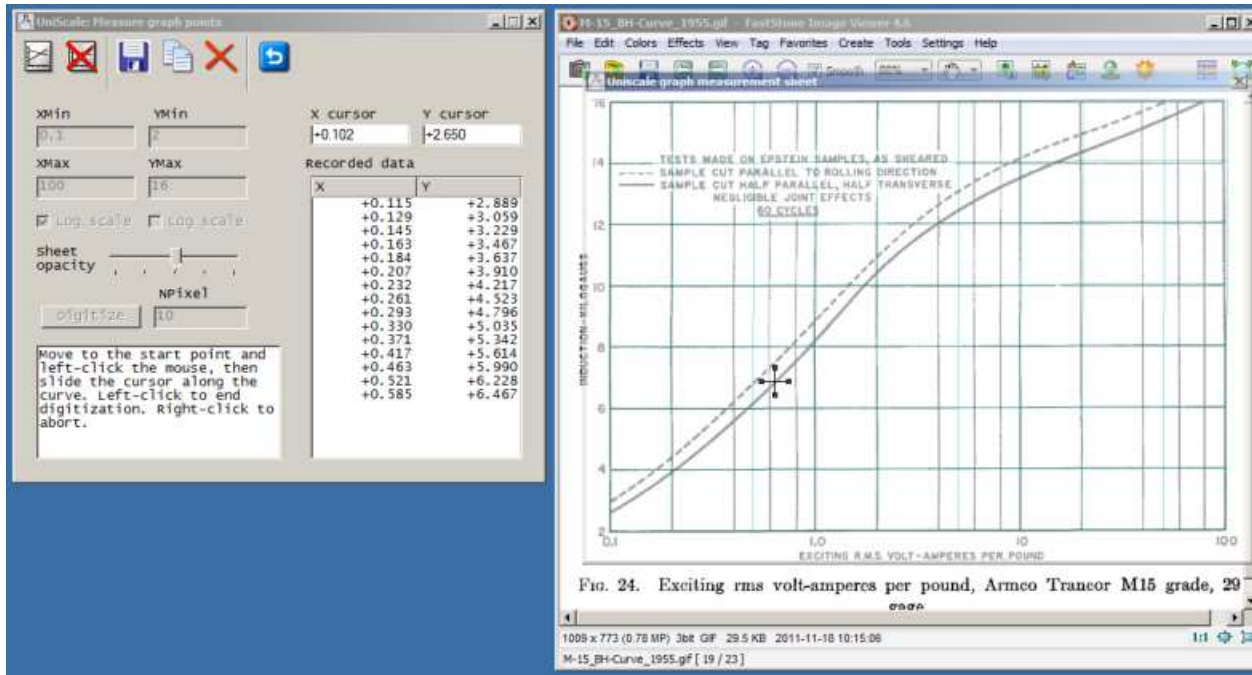

Figure 6: Calibration setup for a graph with a logarithmic axis, digitization in progress.
3. Use the check boxes if the graph contains one or more logarithmic axes (Fig. 6). In this case, values in the **XMin-XMax** and/or **YMin-YMax** boxes must be greater than 0.0.
7. To digitize curves like the one in Fig. 6, push the **Digitize** button. Then move the cursor to the start point of the curve on the locked measurement sheet. Click the left button and slide the cursor along the curve. Values appear in the **Recorded data** list box. When you reach the end of the curve, be sure to left or right-click the mouse to terminate the digitization process. The value in the **NPixel** box is the approximate distance in pixels along the curve between points. Lower the number to record more points.